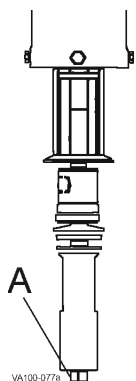

Figure 12 - Valve Stem Removal
1. Using an open end wrench, remove the lower stem (Figure 12, item A) from the actuator by turning it counter-clockwise. To re-install, tighten it clockwise until it is stopped.